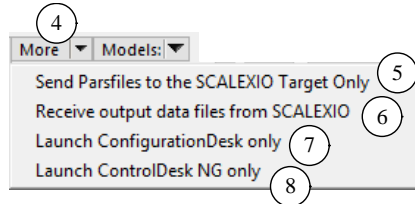

Figure 29. More options for a SCALEXIO connection.
- ③ **Build** button When you click this, the VS Browser will start up ConfigurationDesk, open the ConfigurationDesk project associated with the dataset, and build the model using ConfigurationDesk with the Simulink model or FMU.
- ④ Drop-down control with more options (⑤ - ⑧, Figure 29).